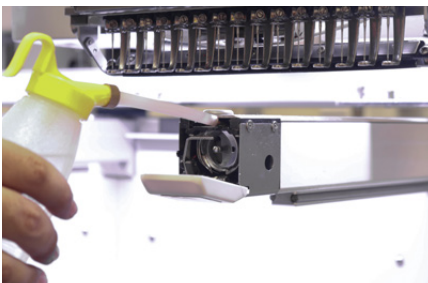

Figure 104
- Remove the bobbin case and clean the hook assembly area with a soft brush, air compressor with a moisture filter or or approved compressed air dusters like Dust Off. **See Figure 104.**